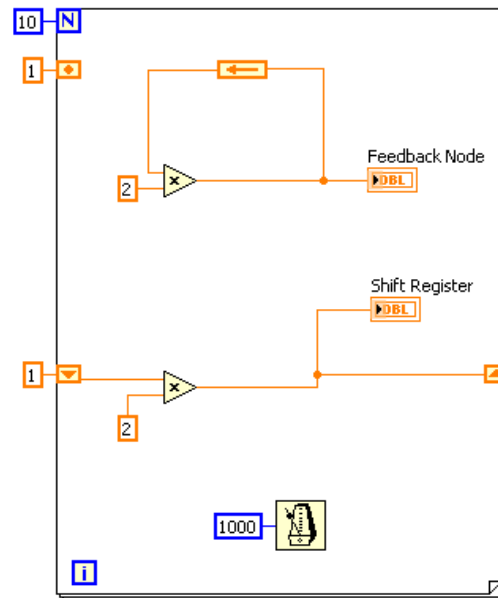

Figure 4.17
3. Replace the bottom Feedback Node with a shift register, as shown in Figure 4.17.